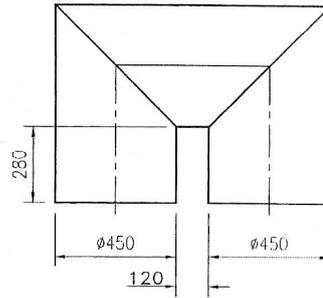

FIG. 3
3. The elevation of a return elbow made in three pieces is shown in Fig.3. Develop the full template for the centre section with the seam at SS. Scale:1 : 10